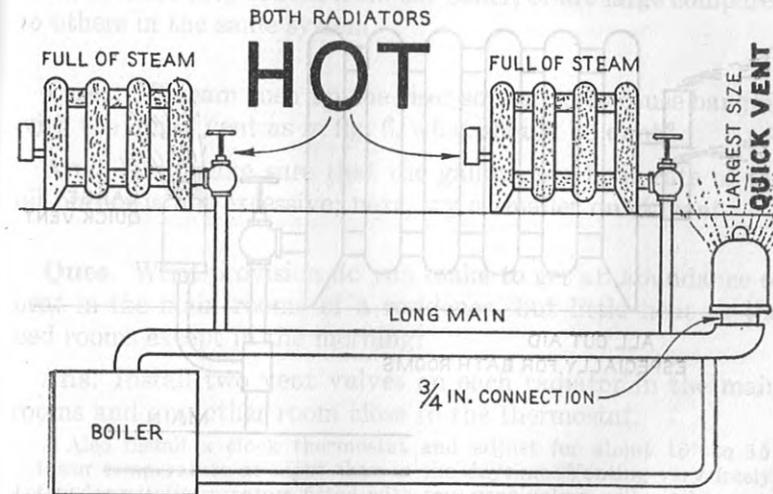

FIG. 5—Quick heating of radiators when the main is adequately vented with a large size quick vent air valve.
**Ans.** Remove the toy vent from the end of the main, also the bushings in the elbow and install the largest quick vent you can get which is  $\frac{3}{4}$  in. size, as shown in fig. 5.
**Ans.** The main in the basement of course should have the large size quick vent as in fig. 5, and if this doesn't thaw out the obstinate radiator, double vent the radiator and in extreme cases, put a quick vent on the supply pipe, as in fig. 6.